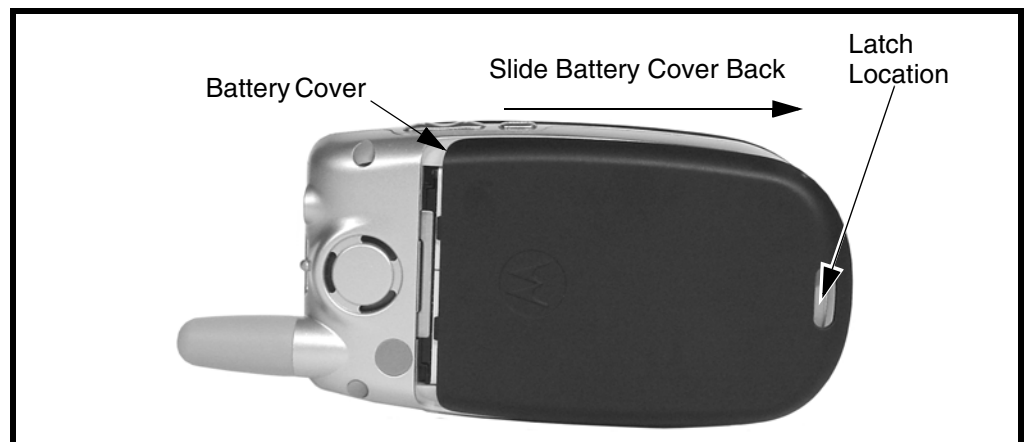

Figure 4. Removing the Battery Cover
2. Press down on the battery cover latch on the bottom of the phone, and gently slide the battery cover back away from the phone and lift it off (see Figure 4).